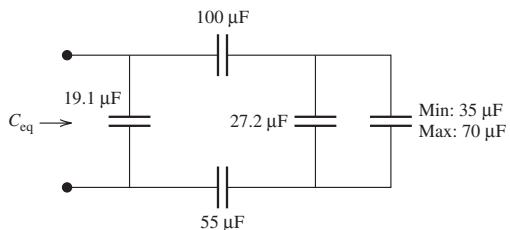

FIGURE P4.30 Capacitor network.
- 4.30 (A)** Find the minimum and maximum values for C_{eq} as shown in Figure P4.30.